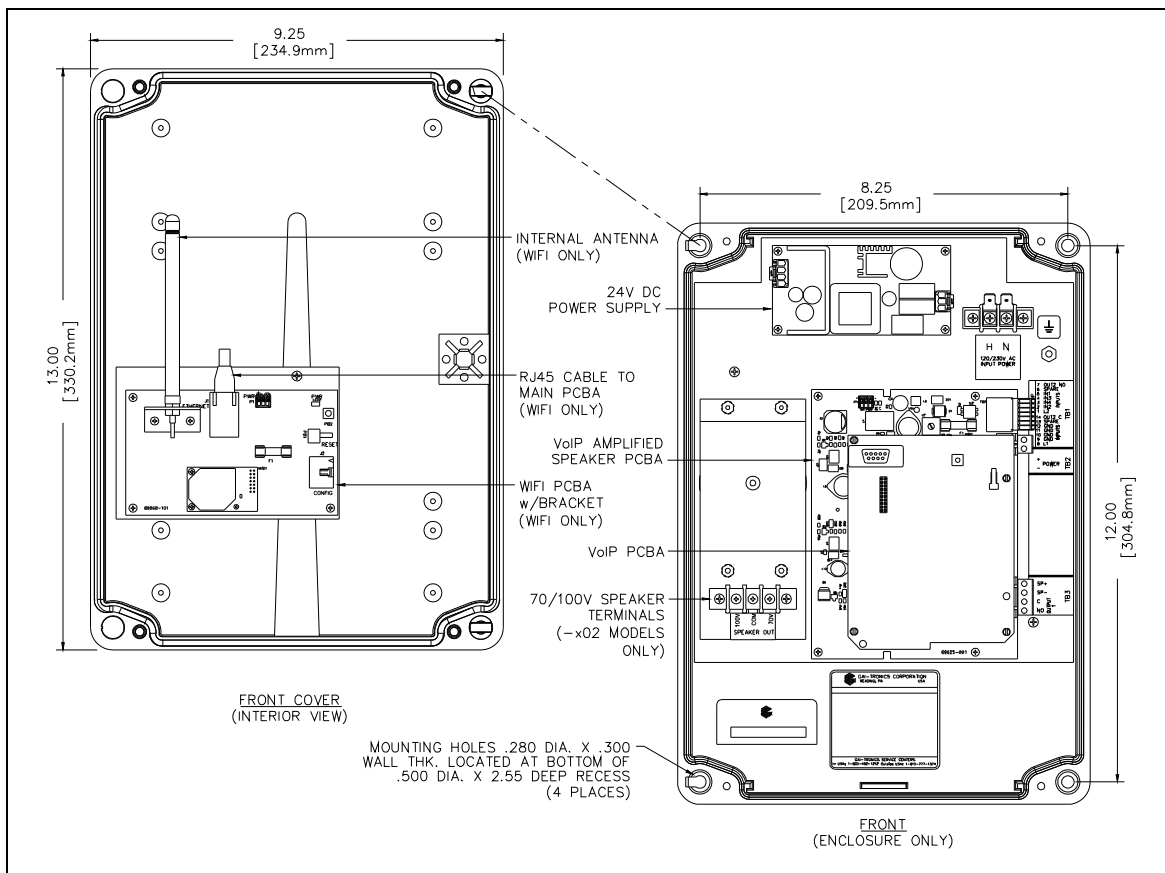

Figure 7. Unit Component Identification
6. Each mounting hole in the enclosure is 0.280 inch in diameter. See Figure 7. Secure the rear enclosure on the wall with screws or appropriate fasteners.